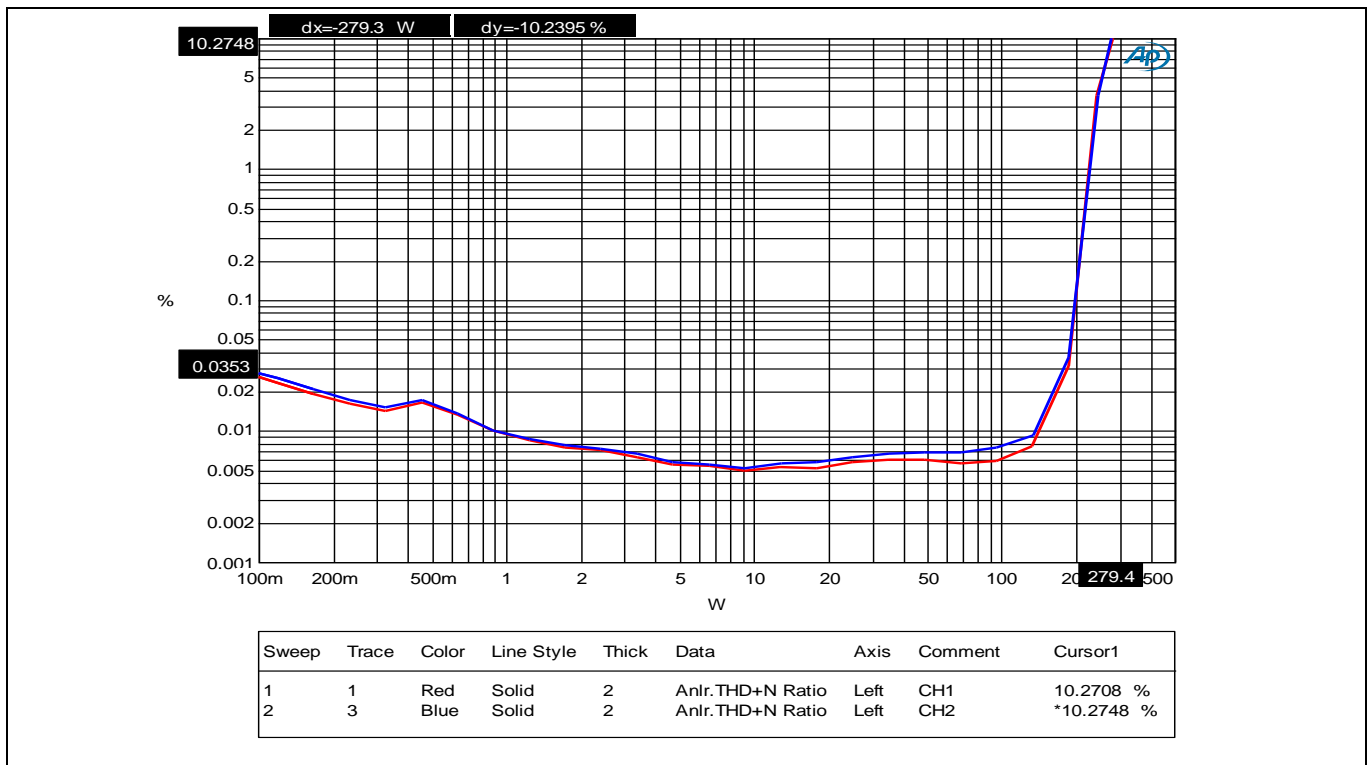

Figure 5 Power vs. THD+N 4 Ω load
9. Run the AP test as shown in Figures 5 to 13, below.